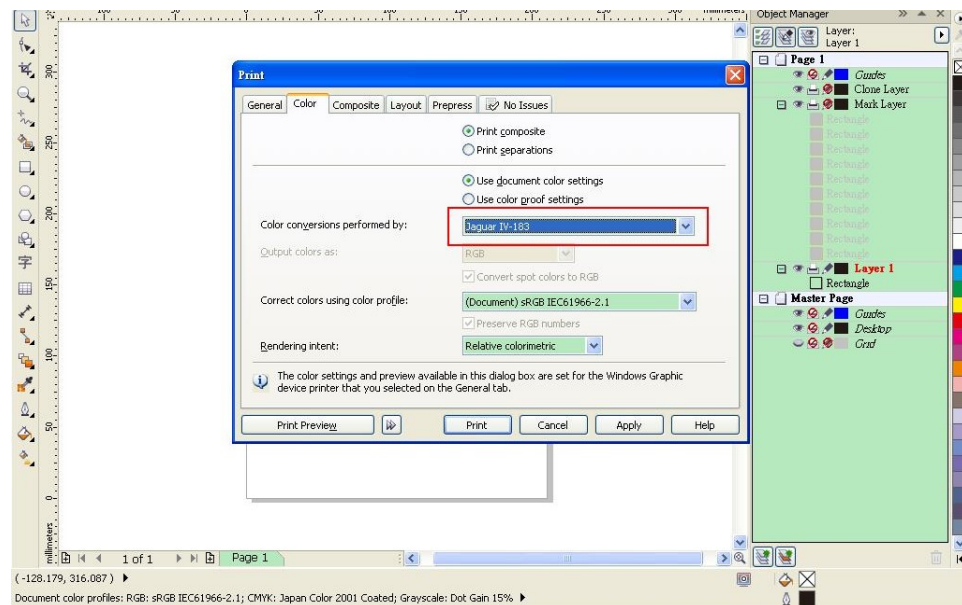

Figure A3-14
1. Click the “color” page and go to the “Color conversions performed by:” and then select the model name of you cutter (please refer to Figure A3-14).